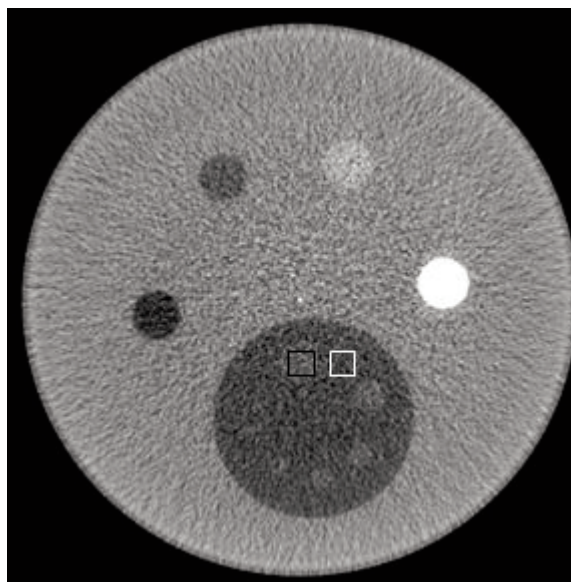

Figure 17.6-1: ROIs for low contrast resolution
2. Find the center slice of the insert 2 low contrast objects using a window width (WW) of 200 and a window level (WL) of 0. Note that there are 7 "tumors." That is 1 each of following diameters: 10, 8, 6, 5, 4, 3.2 and 2.5 mm.
a. Place an ROI within the tumor such that the distance between opposite corners is the diameter of the tumor. Place another ROI in the background material such that no tumors are within the ROI. See Figure 17.6-1.